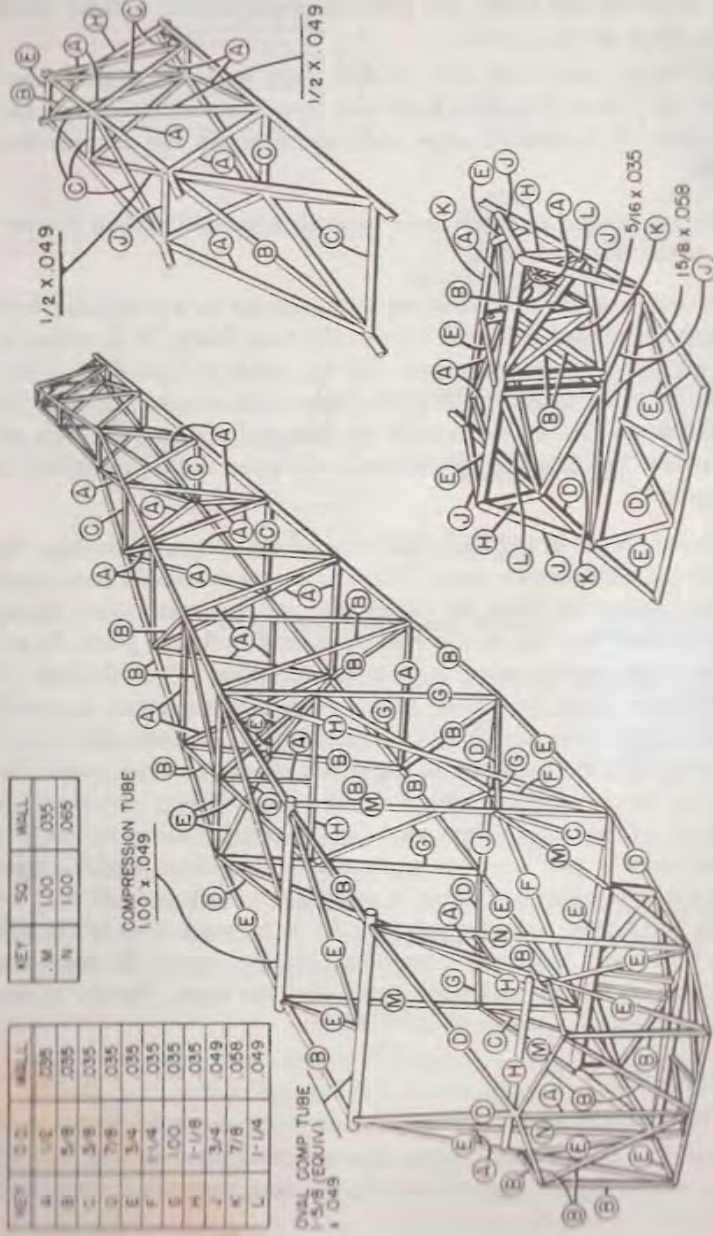

Figure 19—Fuselage Structure (Models 108, -1, -2)
11. The fuselage frame is made of welded chrome-molybdenum steel tubing. The engine mount frame is a separate bolted on unit, also of chromemolybdenum steel tubing. The fuselage structure is illustrated in figures 19 and 20.